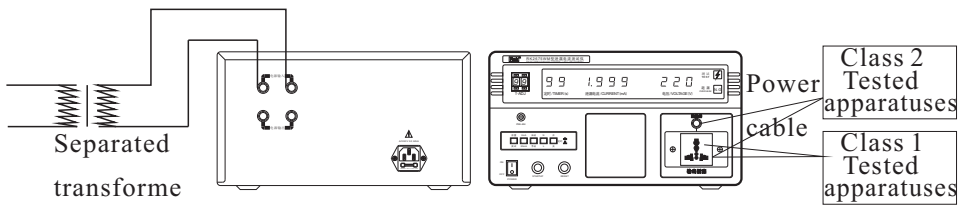

Fig. 3 Wiring method 1 (load <2KVA)
2. Select wiring method according to the power scope of tested appliance (see wiring method 1, 2, 3 in Fig. 3, 4, 5 respectively), connect the tested appliance according to the selected wiring method when the test indicator goes out. Note: when the tested appliance is connected according to the wiring method 3, the tested appliance is out of control of the tester, namely, its power on/off is not controlled by the key "START", "RESET".